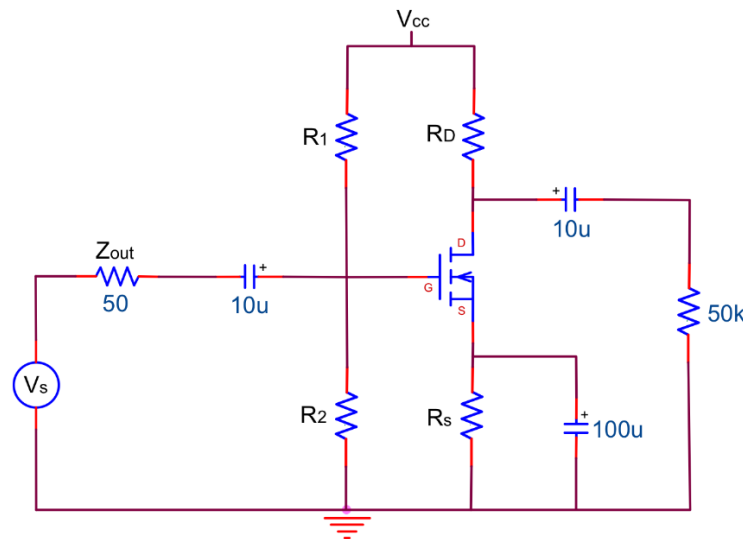

Figure 10.1
1. Calculate the resistors needed to design the MOSFET common source amplifier in Figure 10.1 with the following specifications:
For Figure 10.1 find the following values in PSPICE.